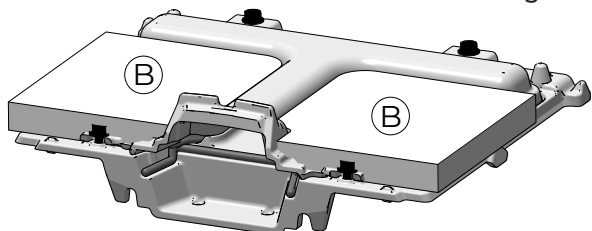

Fig. 7.13
8	Place the new back plate on the rear insulation panels (B) (Fig. 7.13)